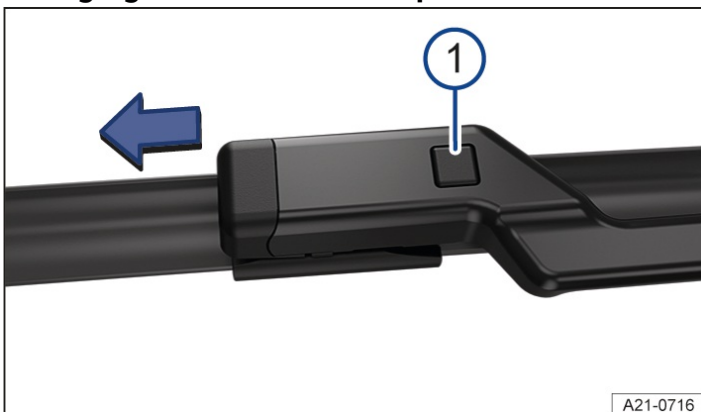

Fig. 1 Changing the windscreen wiper blades.
- ① Release button for the wiper blade.
3. Press and hold the release button and simultaneously pull off the wiper blade in the direction of the arrow → Fig. 1 ①.